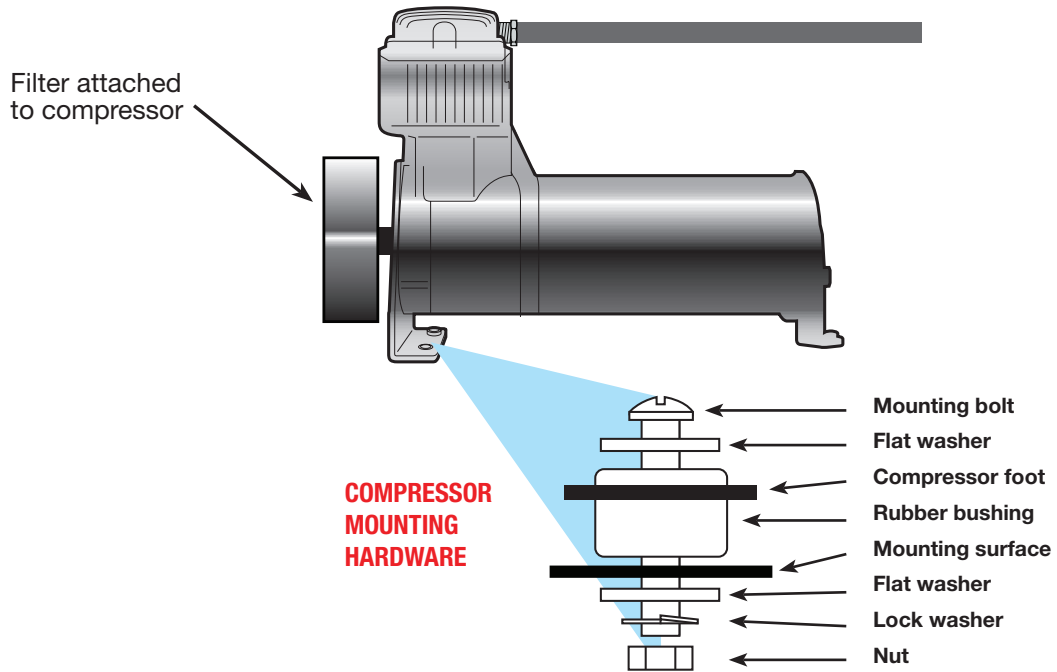

fig. 13
2. Fasten the manifold using the supplied hardware. If the mounting surface is not flat, add washers or a spacer to lift the manifold up over surface irregularities (fig. 13). In addition to the provided self-tapping screws, the manifold mounting holes are threaded and can be secured with 5/16"-18 bolts (also supplied).